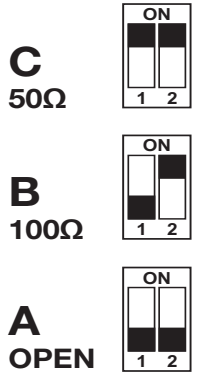

Fig. 6
3. Terminate the video signal (Fig. 6)